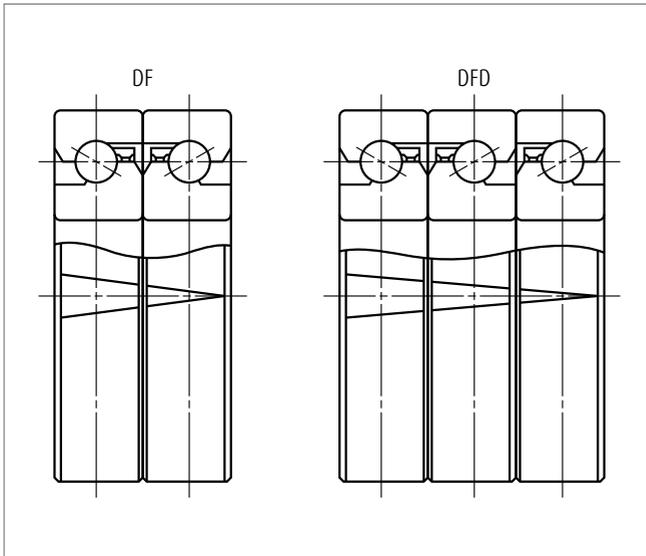

Fig. 2 Examples of combination and "V" mark
- > Fig. 2 shows examples of combinations. There is "V" mark on the outside surface of the bearing to avoid misarrangement. A complete letter "V" should be formed when all bearings align correctly to form a set.